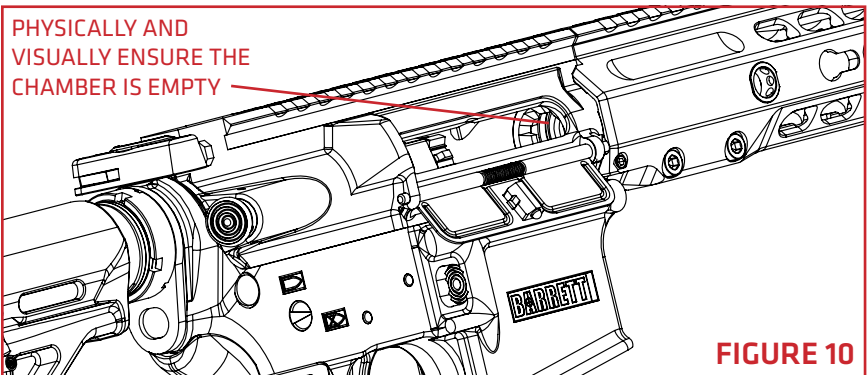

FIGURE 8
2. Remove the magazine by depressing the magazine release button and allowing it to fall free (**FIGURE 8**).